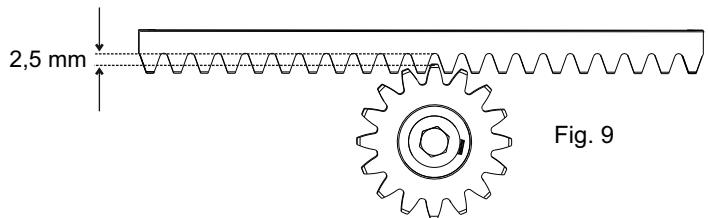

Fig. 9
**5.6.** To avoid that the door weights down on the pinion (Fig.9) lift up the whole rack about 2,5 mm.